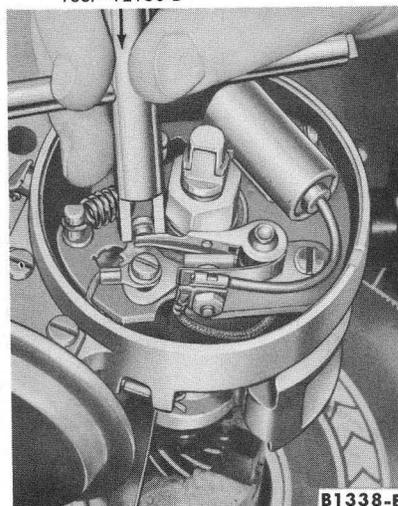

FIG. 12—Aligning Breaker Points
2. Align the breaker points to make full face contact by bending the stationary breaker point bracket (Fig. 12). **Do not bend the breaker arm.**